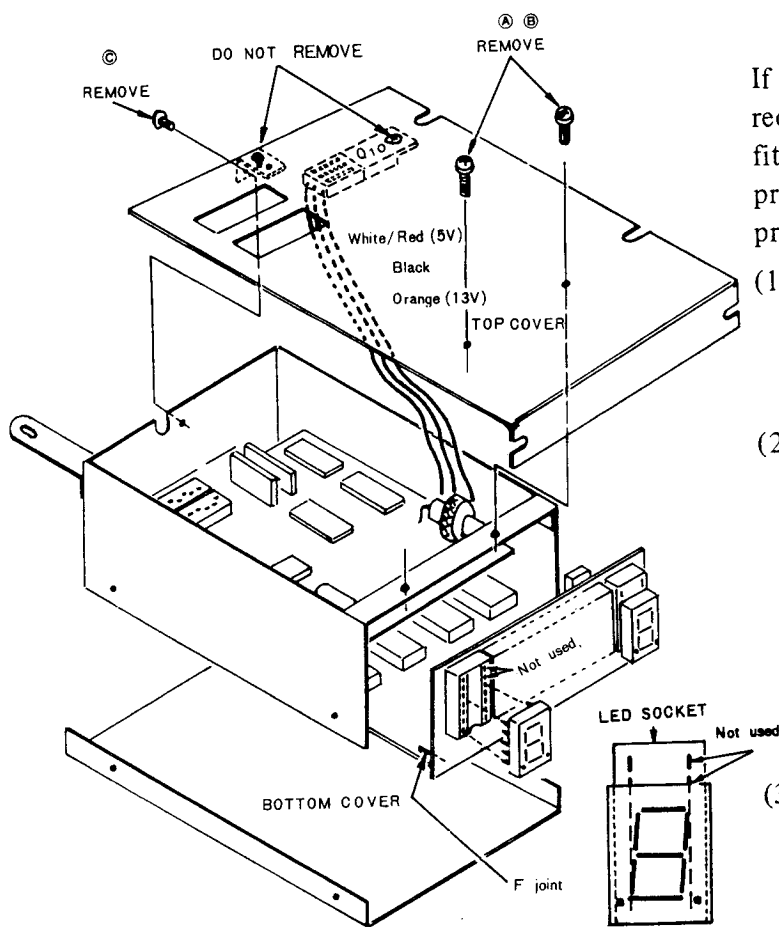

Figure 22.
- (1) Remove screws A, B, and C, as shown in Figure 22. Be careful not to remove the two screws on the top rear of the cover. Now remove the top cover.
- (2) PB-1980 and PB-1979 are stacked within the enclosure. The display module is held in place with two "F" joints, while the two circuit boards are held together by plug D and socket E. When replacing LED digits, note that the top two pins on each row of the socket are not used; be careful to align the LED correctly. The bottom cover is held in simply by a snap fit.